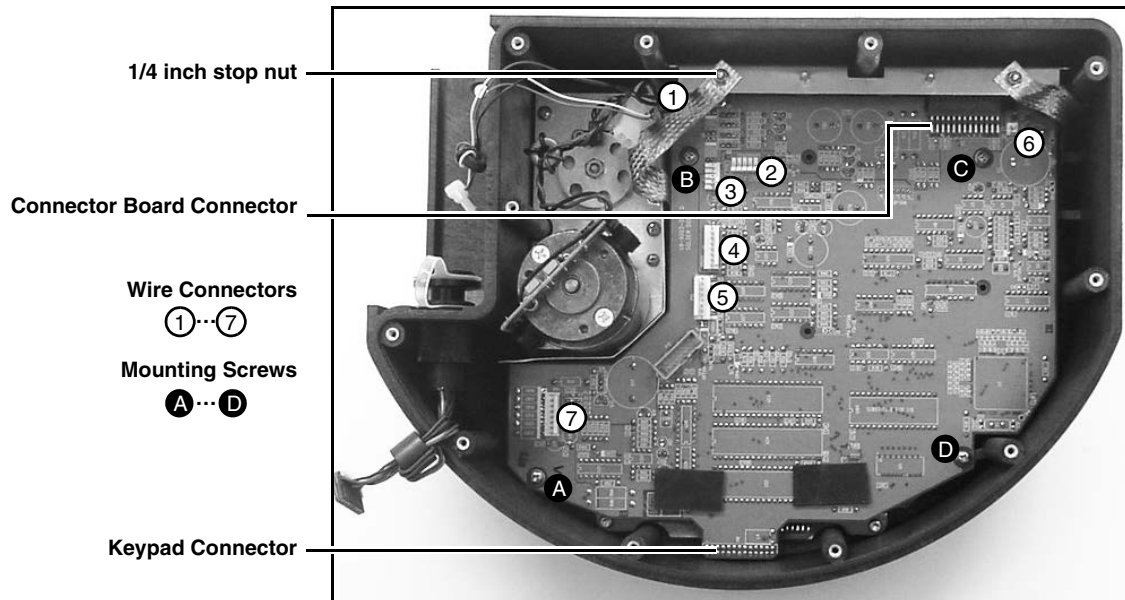

Figure 9-7 Main Circuit Board Connections
3. Remove the grounding strap by loosening the $\frac{1}{4}$ -inch stop nut (Figure 9-7).
4. Disconnect the remaining connectors from the main circuit board (Figure 9-7).